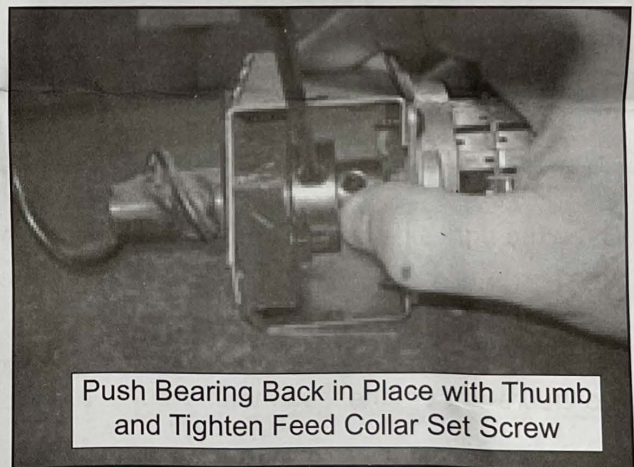

Figure 11
3. Move the feed collar away from the plastic bearing to release the pressure and then push it lightly against it again. **Figure 11.**